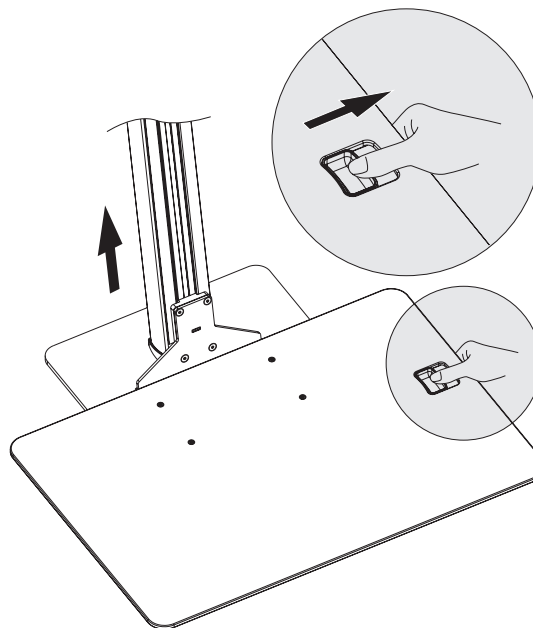

Figure 4
2. Slide the height adjustment switch and raise the keyboard tray, see Figure 4.